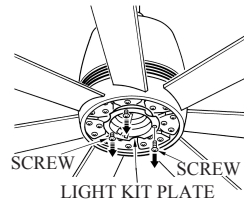

FIG.12
1. Remove one screw and loosen 2 screws from Light kit plate. (see Fig.12)